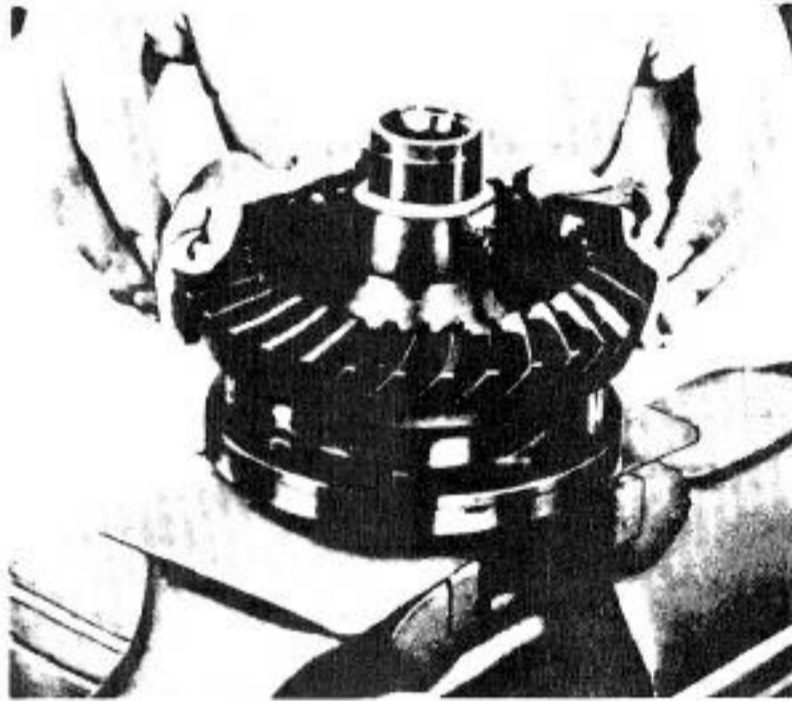

Fig. 11-22. Installing heated ring gear on the differential housing. Note the centering guide pin at each side of the housing.
- Heat the ring gear to 100°C (212°F) and put it in place on the housing. Lower it over the two centering pins, as illustrated in Fig. 11-22.